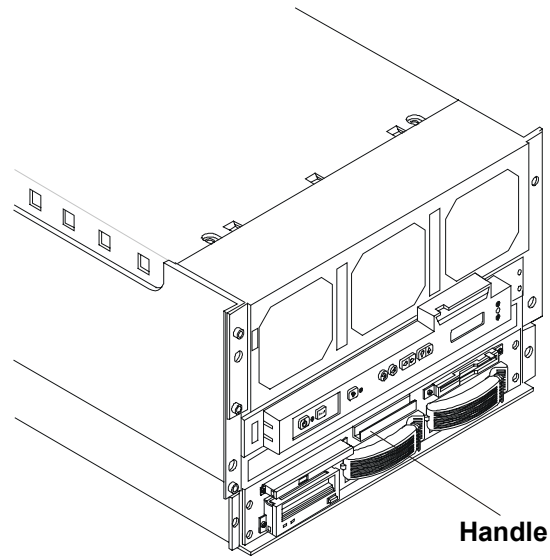

Figure 2-2. Pull the Handle to Extend the HP NetServer from the Rack
2. To extend the HP NetServer from the rack, pull on the handle indicated in Figure 2-2.